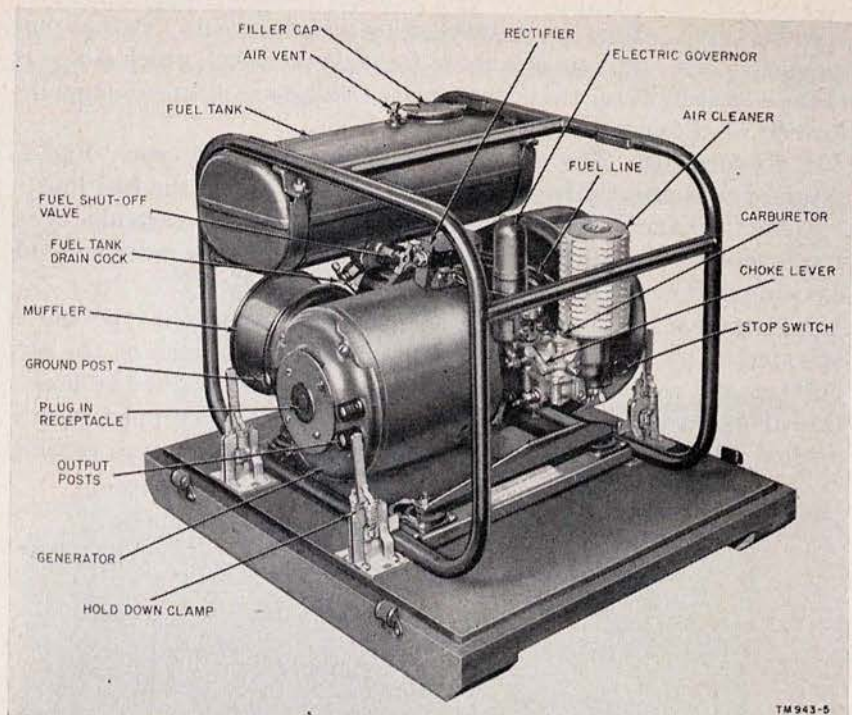

Figure 5. Engine Generator PU-181/PGC-1, mounted on wooden platform base.
5. Major Parts and Assemblies (figs. 5 to 9)